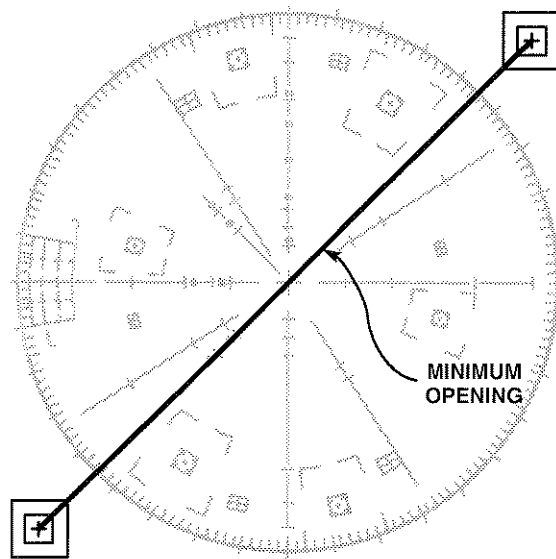

Figure 5-17: Audio frequency XY display.
- c. **ADJUST C176** (VHF Comp) for minimum opening in the diagonal trace. See Figure 5-17.